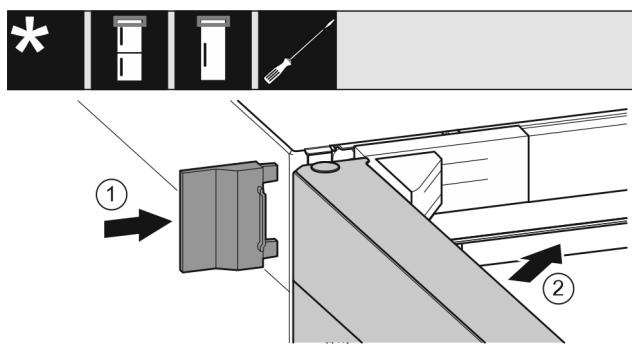

Fig. 22
- Push the outer cover Fig. 22 (1) on.
- Close the upper door Fig. 22 (2).